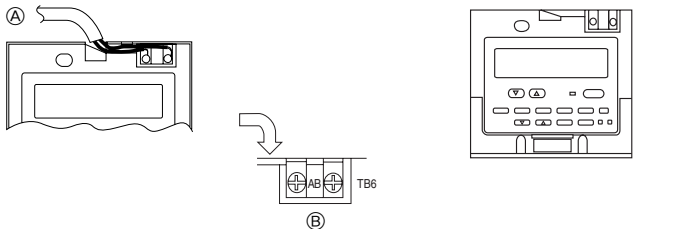

Fig. 7-6
2) Connecting procedures (Fig. 7-6)